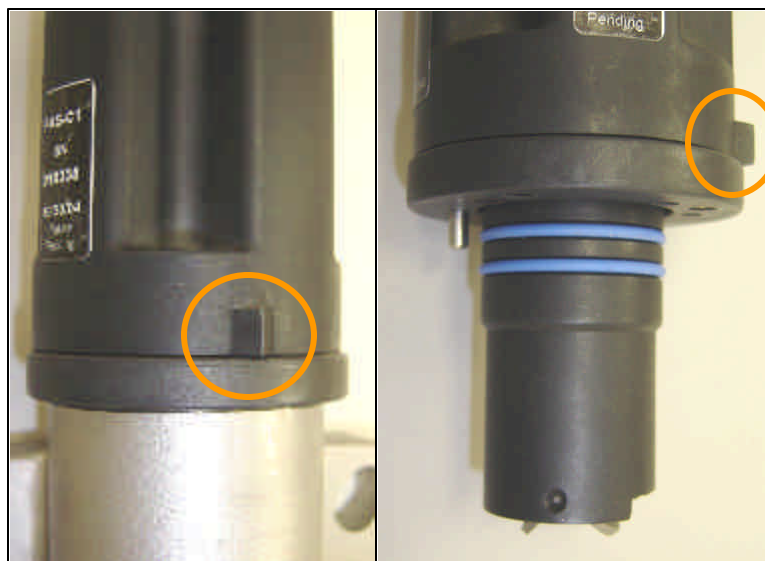

Figure 2: Paddlewheel Flow Sensor Triangular Notch
- Triangular notch is visible (see Figure 2)
After reviewing Section 4, and determining that you are using a recent Paddlewheel Flow Sensor, a final verification must be performed. If you have removed the flow sensor, replace it back into the flange or manifold. Find the small, triangular notch on the flow sensor (see Figure 2). *This notch should point in the direction of flow.* If the notch is pointing against the flow, you should proceed with the modification outlined below.